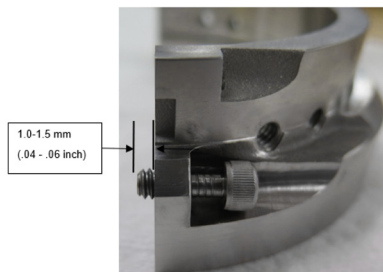

Figure 7
- 3.4 The thin flange on the seal drive has a short threaded section which is designed to hold the turned cap screw ready for installation. Lightly coat a seal drive cap screw's threads with 206 seal lube and install it through the clearance hole until it protrudes 1.0 to 1.5 mm (0.040 to 0.060 inch) past the seal drive joint. See Figure 7.